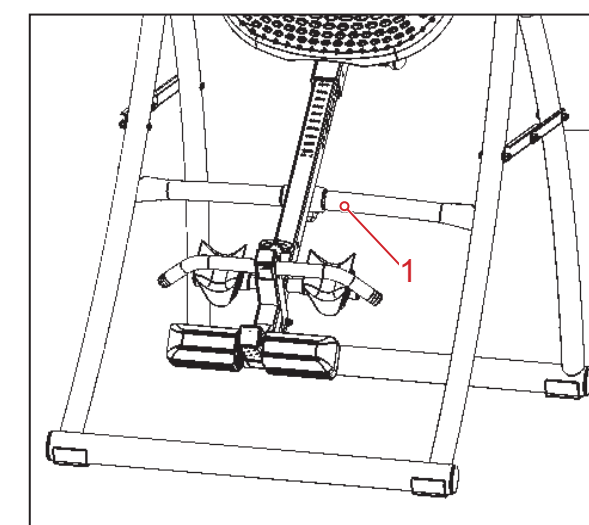

Figure 16
- The Main Shaft must rest against the Crossbar of the A-frame (Figure 16). The Crossbar prevents the table from rotating forward when the user steps on the Foot Platform. If the Main Shaft does not rest on the Crossbar as shown in Figure 16 then the Table Bed has been assembled backwards onto the A-frame and this must be corrected before use.